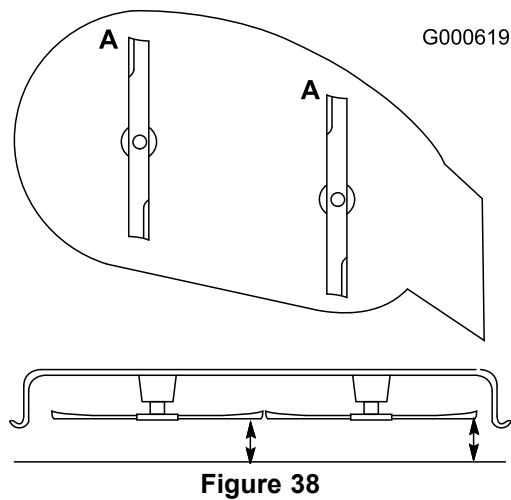

Figure 38
2. Rotate the blades until the ends face forward and backward (Figure 38). Measure from a level surface to the cutting edge, position **A**, of the blades (Figure 38). Note this dimension.